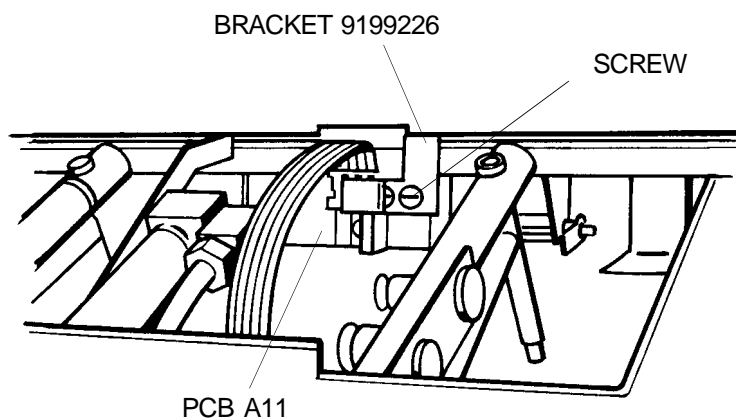

figure 3
- 7.** Install BRACKET 9199226 on PCBA11 use SCREW removed in STEP 6. See figure 3.